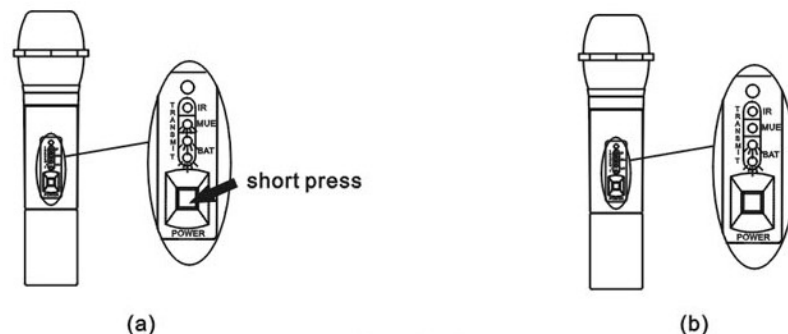

FIGURE 28
a. The IR of transmitter will black out, indicate finishing adjusting code and enter MUTE (MUE BAT light). At the time, please short-press the POWER button and enter the normal operation; on the contrary, the system don't finish adjusting code and need re-adjust code.(Figure 28)